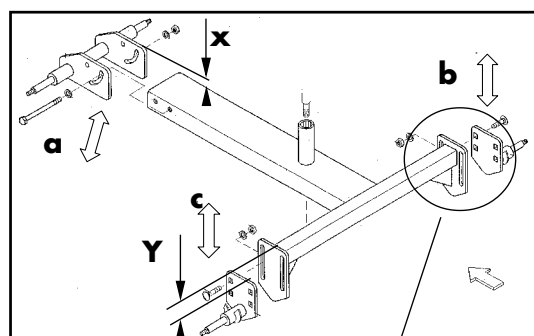

Fig. 4-3
Fig. 4-3 a
Rotor tilt can be adjusted as follows using the flanges with slotted holes located on the front wheel axles (a) (fig. 4-3):
- The lateral tilt can be adjusted using the flanges with slotted holes (b) and (c) shown in fig. 4-3. When moving towards the swath the tines should be abt. 20 mm deeper.